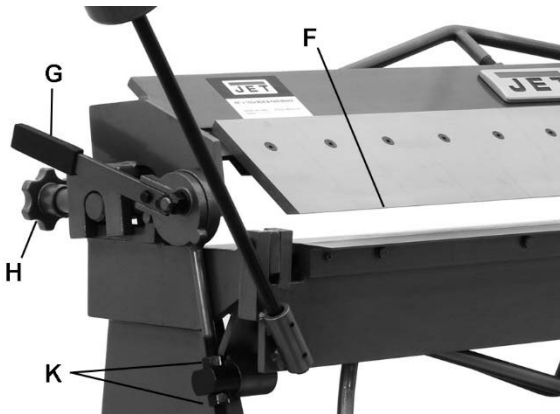

Figure 4
The forward edge of hold-down fingers (F, Figure 4) should be adjusted parallel to pivot edge of clamping table. Release clamping pressure on hold-down assembly by pushing clamp handles (G) slightly to the rear. Turn hand knobs (H) to adjust hold-down assembly for parallel.
Turn both knobs (H, Figure 4) the same amount to maintain parallelism of fingers with apron.
Clamping pressure should be adjusted according to material thickness. Clamping pressure should be great enough to hold material securely in place but not so much that it is difficult to lock the clamping handles (G, Figure 4). Clamping pressure can be adjusted by turning the nuts on threaded rod portion of yoke assembly (K, Figure 4).